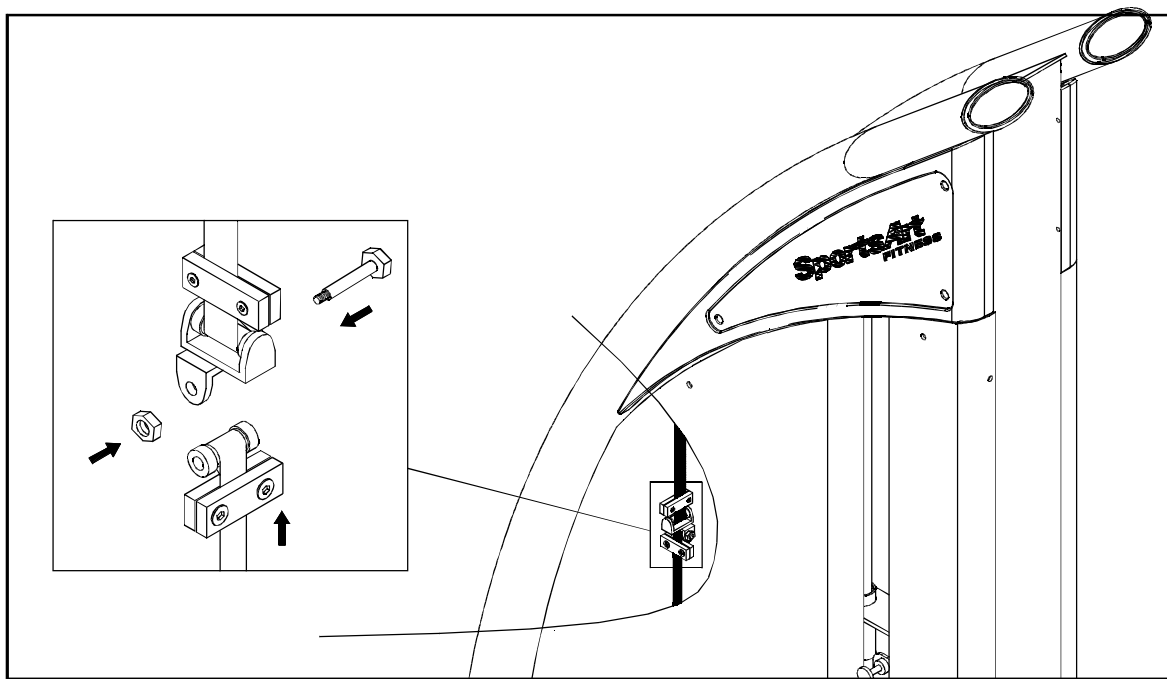

Fig.2
2. Screw up the belt with open wrench (10 mm & 12 mm) as shown in Fig.2.